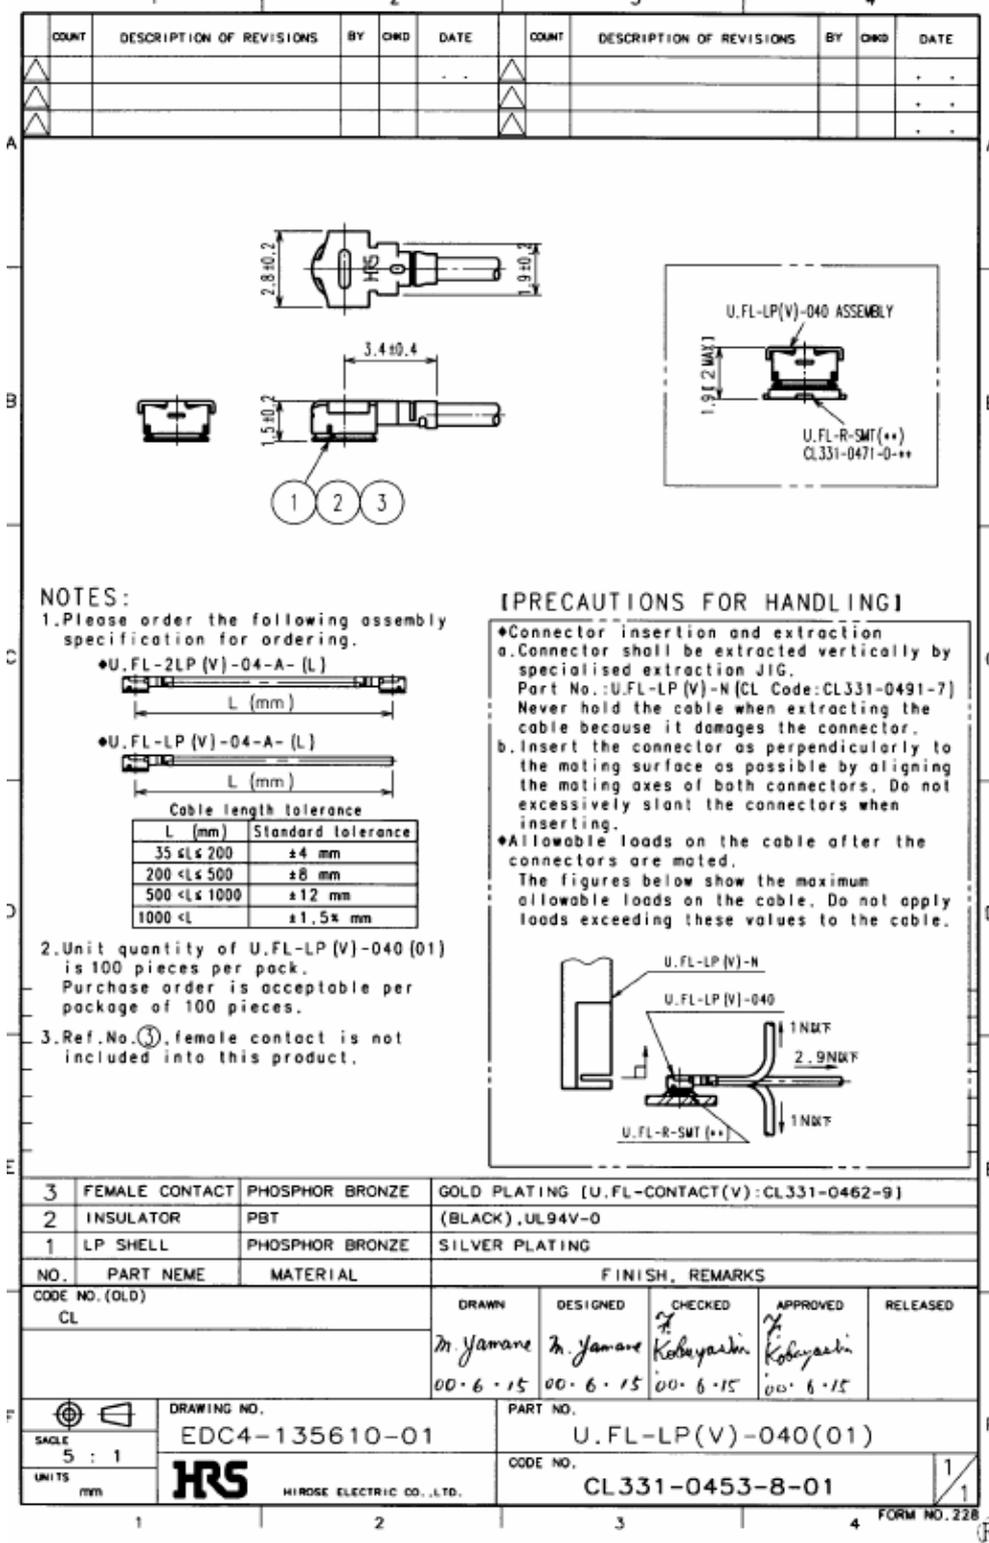

Figure 8: Specifications of U.FL-LP-(V)-040(01) plug
In addition to the connectors illustrated above, the U.FL-LP-(V)-040(01) version is offered as an extremely space saving solution. This plug is intended for use with extra fine cable (up to  $\varnothing 0.81\text{mm}$ ) and minimizes the mating height to 2mm. See Figure 8 which shows the Hirose data sheet.